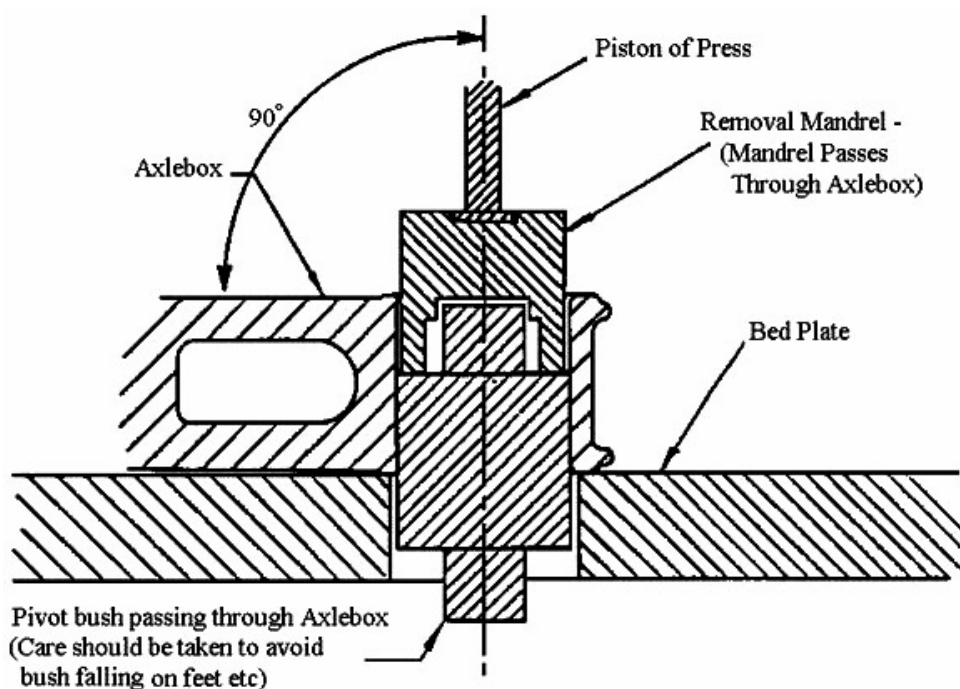

Figure 3: Removal of Axlebox Pivot Bushes
D.1.1 Remove pivot bush and discard. See Figure 3 and Section 5 for removal mandrel size details.